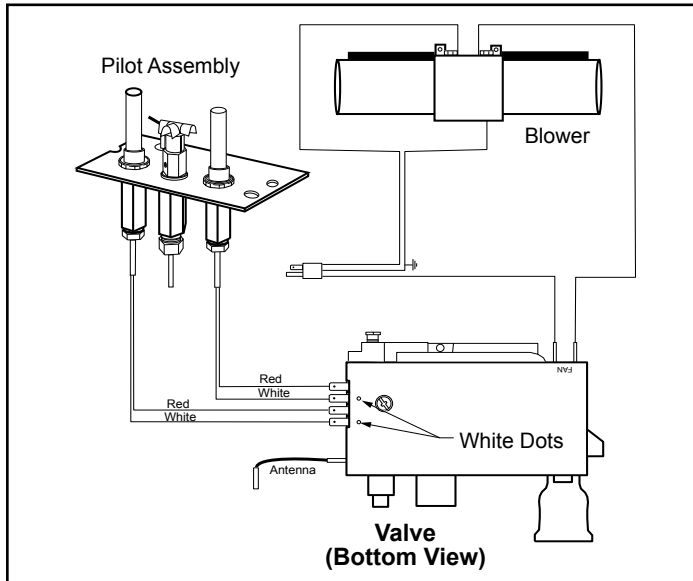

Figure 46 - FK26 is wired to back of Comfort Valve.
**NOTE:** Steps 2 and 3 do not apply when the RF valve is used. After attaching the blower assembly to the firebox, run the spliced female leads to the front of the stove and attach to back of RF valve. (Figure 46)